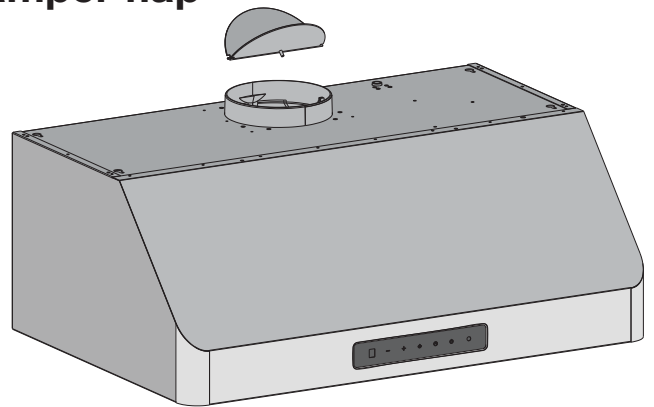

Figure 1
- Fix the damper flap on top of the range hood (see figure 1).